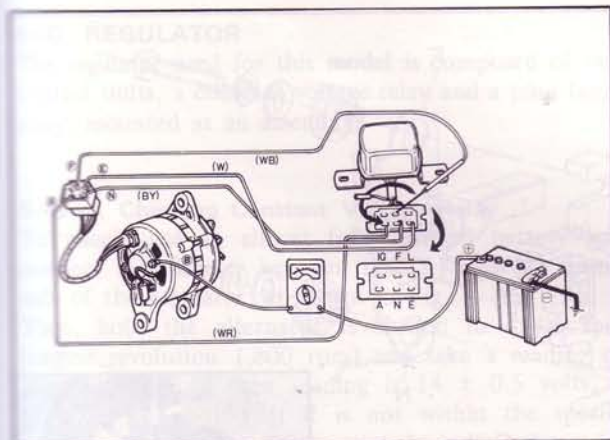

Fig. 5-17 Checking charging system
2. Remove the regulator couplers and connect them by using the proper lead wire as shown in Fig. 5-17.